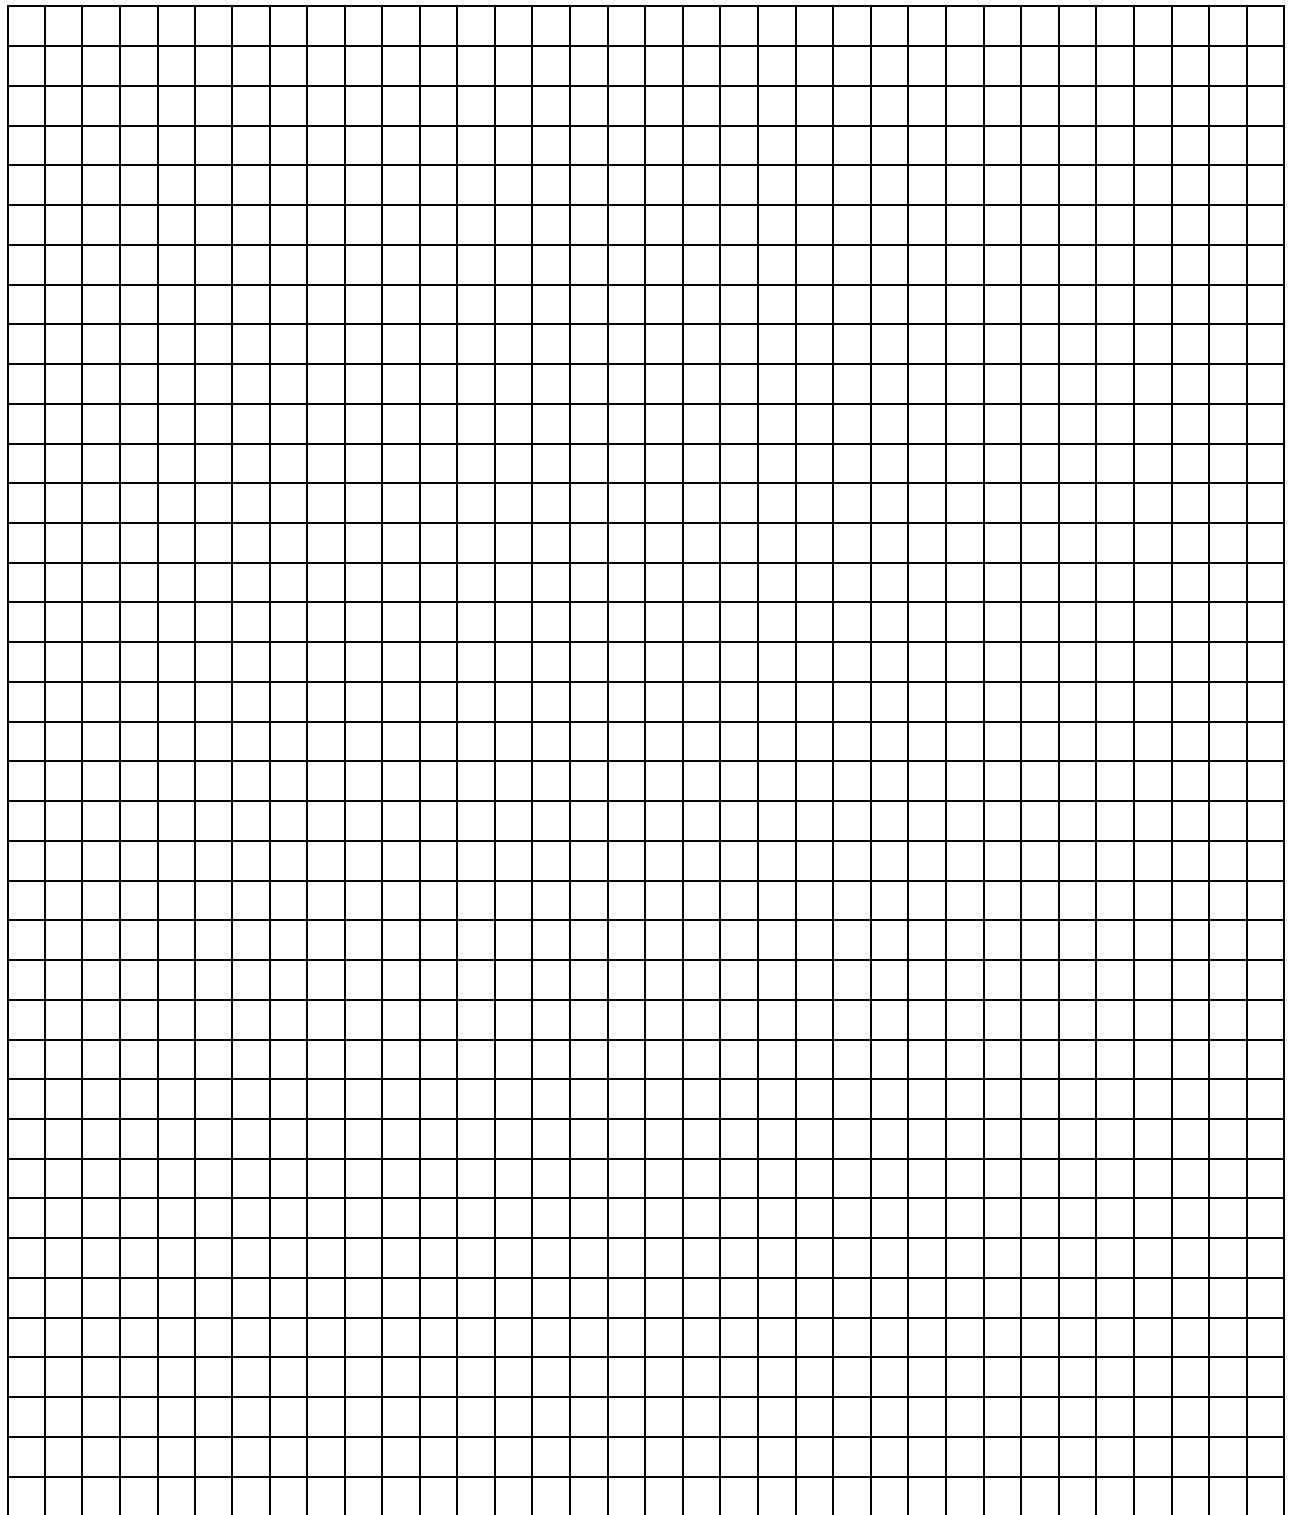

Figure 5 - Righting Arm Curve
10. Plot this data on the axis at Figure 5. It is recommended that you use a spreadsheet to manipulate data and construct your plots. You will use the righting arms in the normally loaded condition in future labs.
11. From the plot your plot at Figure 5, complete the following table.
24. **Plot** the calculated data on the curve of intact statical stability at Figure 5. You may do this using a spreadsheet, or plot by hand. You do not need to connect these data points with a line.